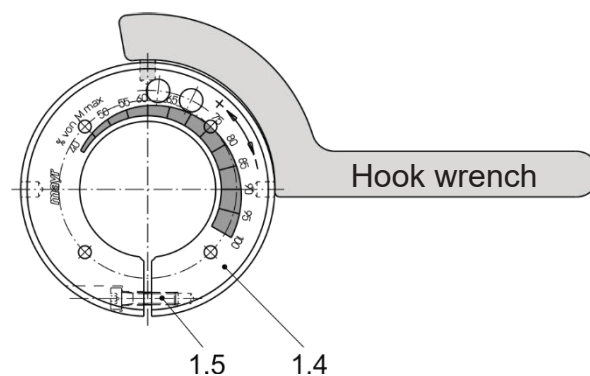

Fig. 6
c) Turn the adjusting nut (1.4) clockwise or anti-clockwise according to the engraved adjustment scale (Fig. 6) using a hook wrench or a face wrench, until the required torque is set.